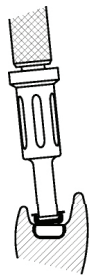

Fig. 8
8. Use the Locator Male Removal Tool (attached to the Locator Core Tool, Zest order No. 8393) to remove the Black Processing Replacement Male from the metal denture cap. The sharp circular edge on the end of the removal tool should be wedged tightly down into the very bottom of the Male so that it will catch the inside of the Male and pull it at an angle out of the metal housing. (Fig. 8) To discard the Male from the tip on the Core Tool, point the tool down and away from you and tighten the Male Removal Tool clockwise back onto the Core Tool. This will activate the removal pin and dislodge the Male from the tip end of the Male Removal Tool.